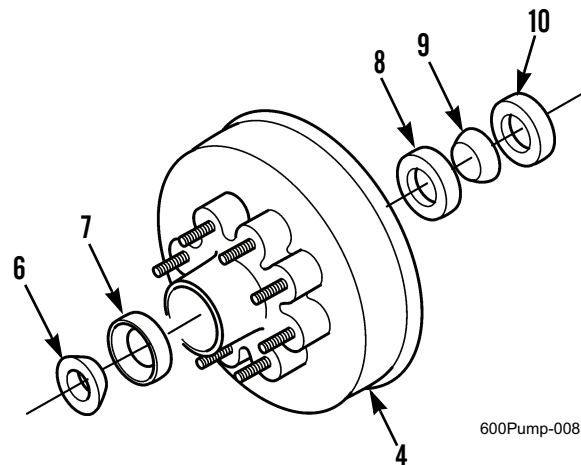

Figure 2. Hub/Drum Seal, Bearings, and Bearing Races.
1. Remove seal (Figure 2, Item 10) from hub/drum (Figure 2, Item 4). Discard seal.
2. Remove inner bearing (Figure 2, Item 9) from hub/drum (Figure 2, Item 4).
3. Remove outer bearing (Figure 2, Item 6) from hub/drum (Figure 2, Item 4).
4. Do not remove bearing races (Figure 2, Items 7 and 8) at this time.
4. If damaged, or if replacing bearings, remove bearing races (Figure 2, Items 7 and 8) from hub/drum and discard.